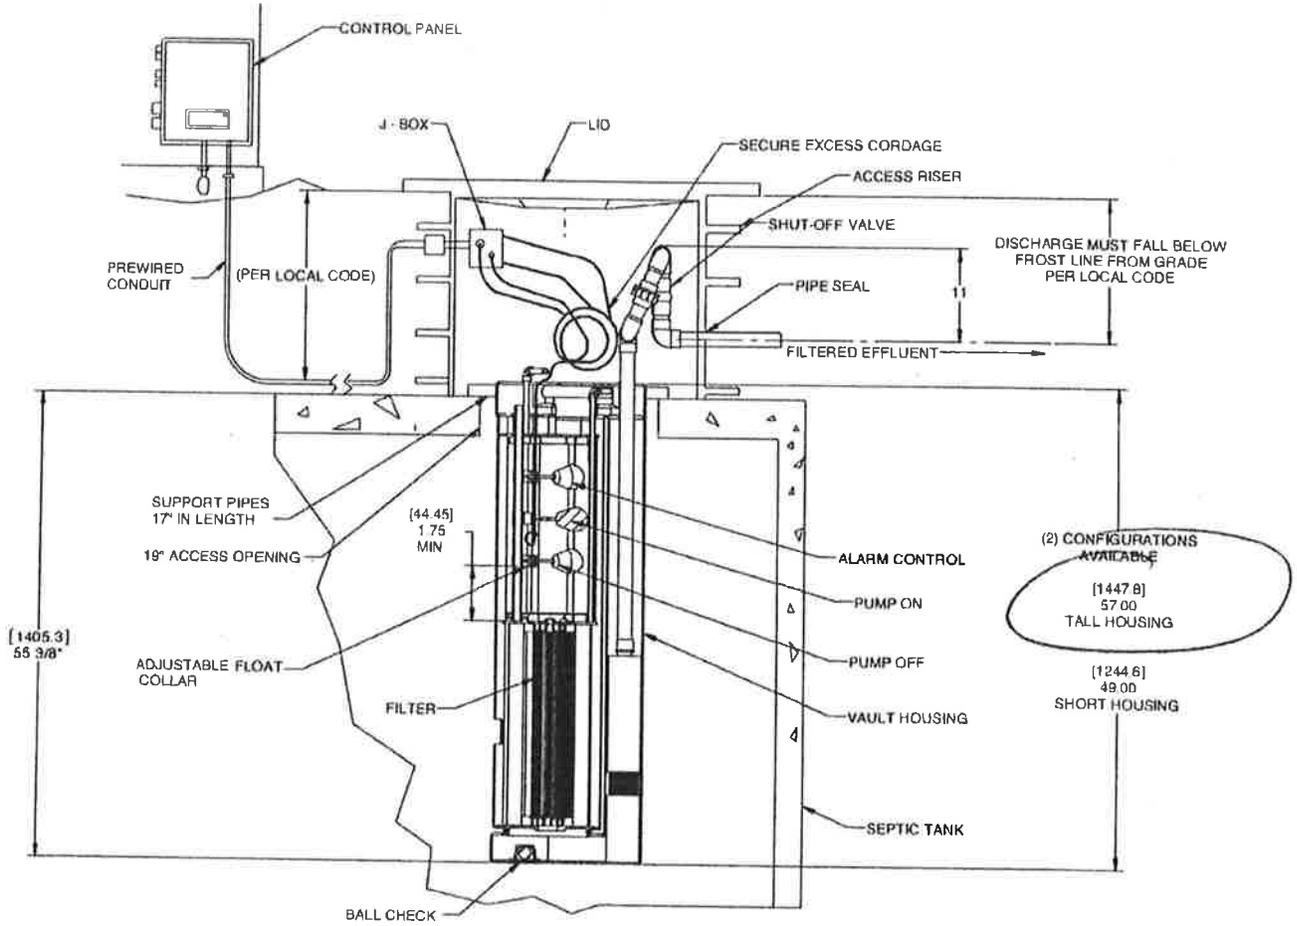

Figure 2
Step 8: If you removed the discharge pipe from the pump to cut and assemble the kit, reattach it to the pump. Lubricate the inside lip of the discharge grommet with pipe soap. Slide the discharge pipe through the grommet. Reinstall the pump and discharge piping into the pump chamber. Align the assembly as shown in Figure 2 and assemble the union. Close the shut-off valve and attach the discharge pipe to the lateral field pipe with PVC solvent/cement. It is strongly recommended that an additional shut-off valve and redundant check valve be located outside the basin at any force main entrances - check local codes for specific requirements.